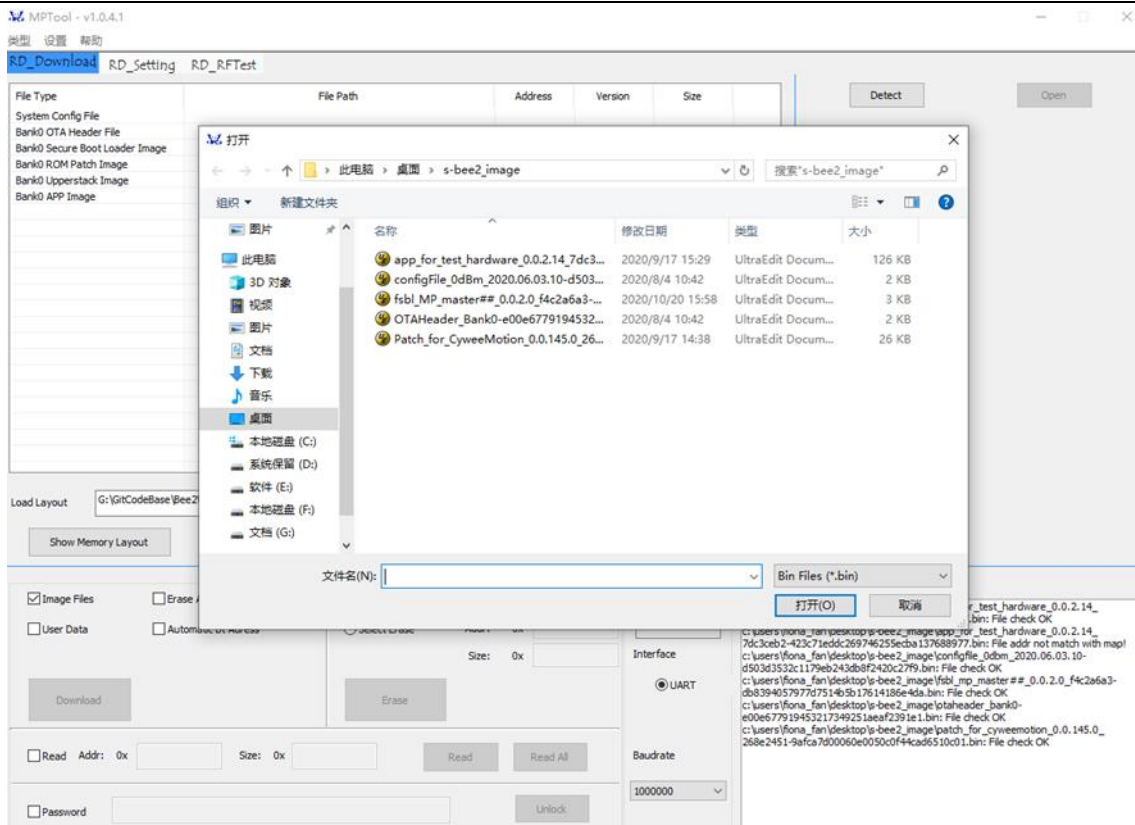
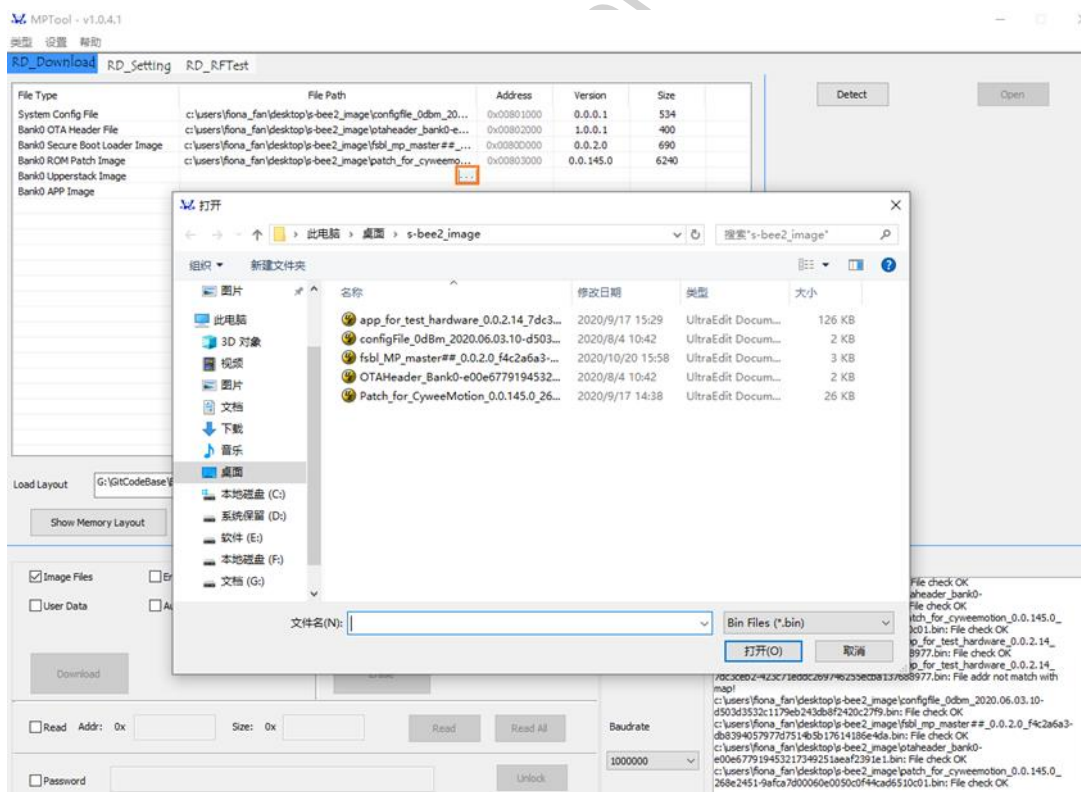

Figure 7-9 Batch import image file
Figure 7-10 Add single image file
- 2) Select the image files to be downloaded, click “Browse” button to batch import Image files as is shown in Figure 7-9 Batch import image file, or select image file in the “file path” item of list box as is shown in Figure 7-10 to add single image file;